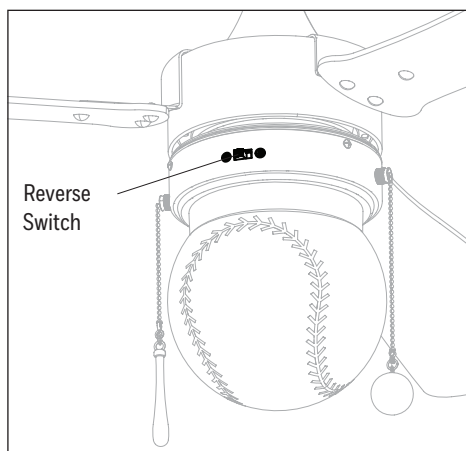

Figure 6.1
1. Using a ceiling fan will allow you to raise your thermostat setting in summer and lower your thermostat setting in winter without feeling a difference in your comfort. **In warmer weather**, push the reverse switch to the left for downward airflow creating a wind chill effect. **In cooler weather**, push the reverse switch to the right for upward airflow that can help move stagnant, hot air off the ceiling area. **Important:** Wait for the fan to stop before moving the reverse switch. The reverse switch must be set either completely left or right in order for the fan to function correctly. If the reverse switch is set in the middle position, the fan will not operate (Figure 6.1).